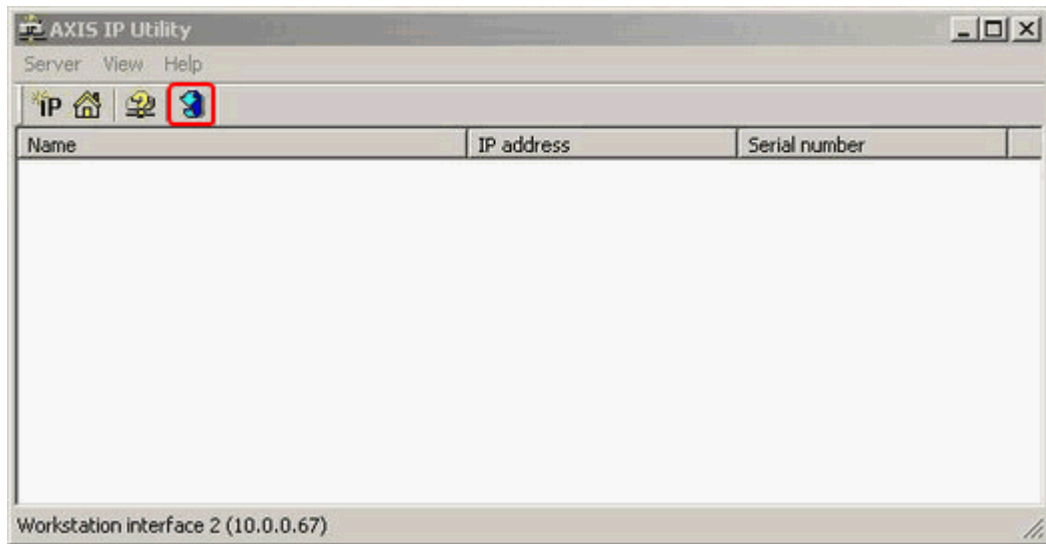

Figure 6.1-1 The IPUtility.exe interface window. The Search button
1. Select **Search** in the IPUtility.exe tools panel (Figure 6.1-1).